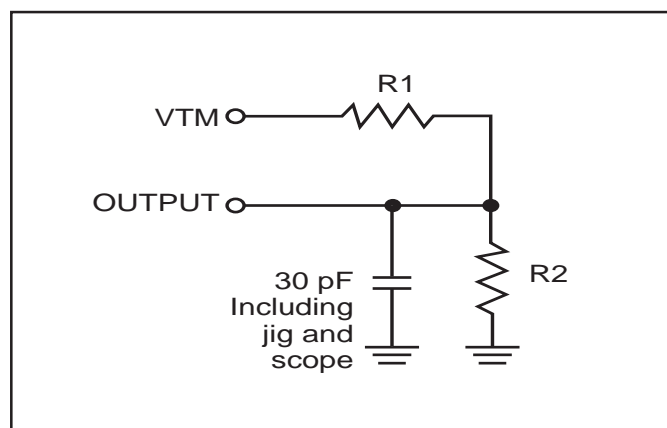

Figure 1
- Test conditions assume signal transition times of 5 ns or less, timing reference levels of 0.9V/1.5V, input pulse levels of 0.4 to V_{DD}-0.2V/0.4V to V_{DD}-0.3V and output loading specified in Figure 1.
1. Test conditions assume signal transition times of 5 ns or less, timing reference levels of 0.9V/1.5V, input pulse levels of 0.4 to V_{DD}-0.2V/0.4V to V_{DD}-0.3V and output loading specified in Figure 1.